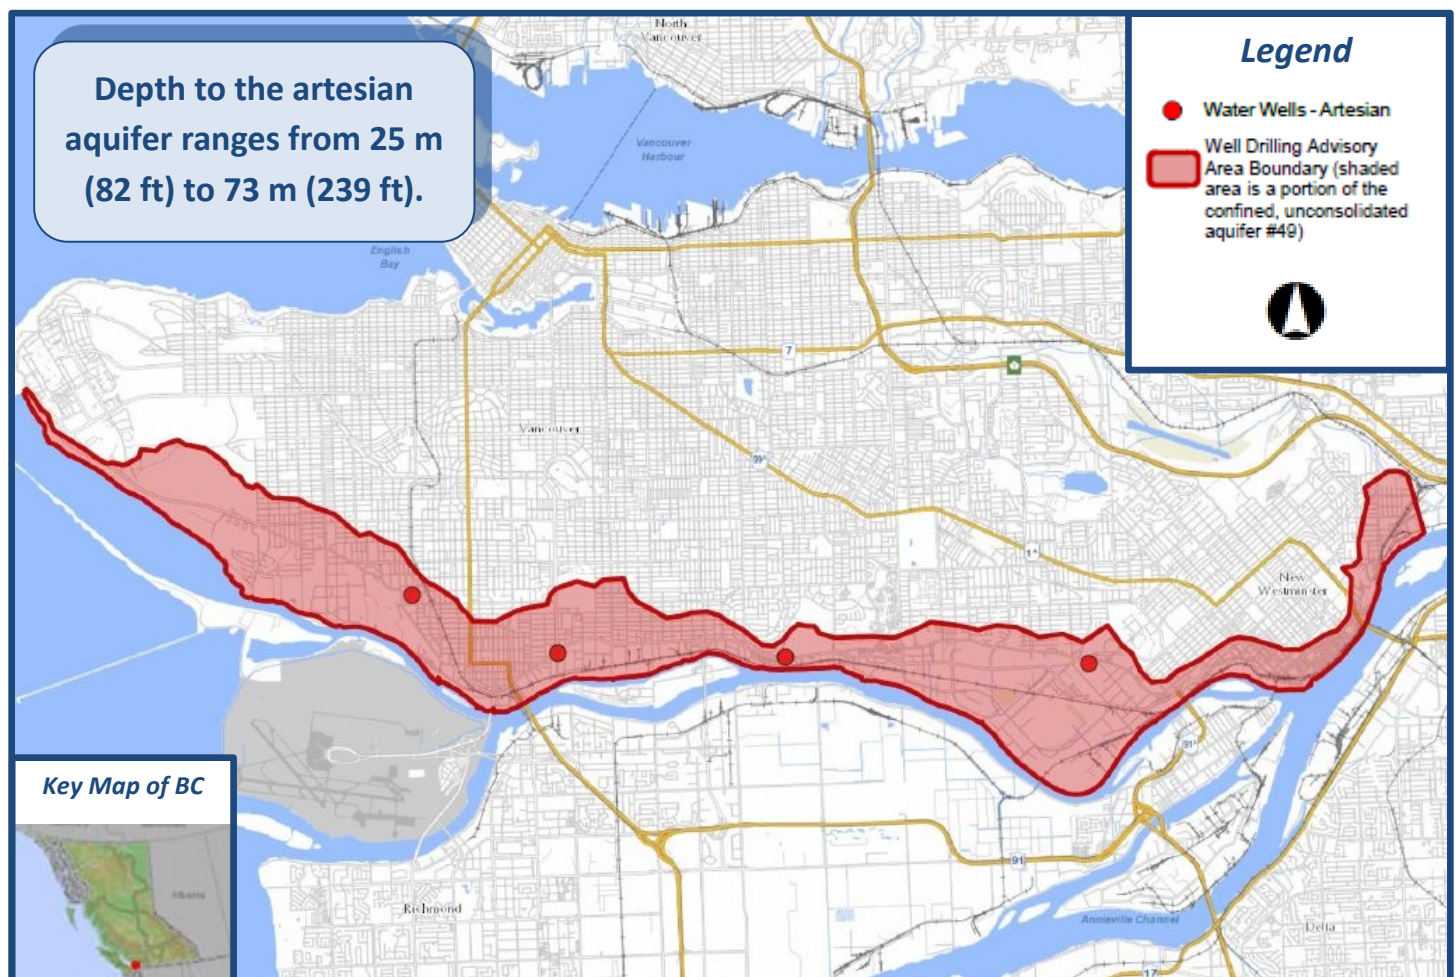

Figure 2: Map of the location of potential flowing artesian conditions (part of aquifer #49) in Vancouver, Burnaby and New Westminister, B.C.
Aquifer #49 underlies most of Vancouver, Burnaby and New Westminister, and it is comprised of the glaciomarine sands and gravels of the Quadra Sands formation. In 2015, an uncontrolled flowing artesian well was drilled into this aquifer on a residential lot on Beechwood Street in the Kerrisdale area of Vancouver, resulting in significant costs to control and decommission the well. The hydrogeological conditions for this aquifer are not well-defined due to the limited number of well records available. However, there is potential for the conditions that exist at the Beechwood Street well to exist in other areas of the aquifer, in particular where the aquifer is confined and the ground slopes towards the Fraser River (Figure 2).
Aquifer #49 ranges from unconfined to confined and based on limited well records available, there are areas that are not likely under artesian pressure (e.g., areas of the aquifer outside the boundary on Figure 2). In addition, a shallow unconfined aquifer within the subject area (aquifer #45, which is comprised of recent Fraser River sands and gravels) likely does not have artesian conditions; however, if you drill through aquifer #45 into an underlying confined aquifer, there is an increased likelihood of encountering flowing artesian conditions.
It is important to understand that geologic conditions are highly variable and information may not be available near the proposed drilling location(s); therefore, neither the presence nor absence of flowing artesian conditions can be known with certainty prior to drilling. Therefore, when drilling into the in the south portion of aquifer #49 as it slopes towards the Fraser River (see Figure 2) in Vancouver, Burnaby and New Westminster, it should always be assumed that flowing artesian conditions will be present and assume a precautionary approach (e.g., installing and sealing a surface casing of sufficient length). The well driller and home owner must be prepared for the resulting costs, planning time, materials, expertise and equipment needed to construct the well to control or stop any artesian flow.
- Assume flowing artesian conditions will be encountered in the subject area (Figure 2).